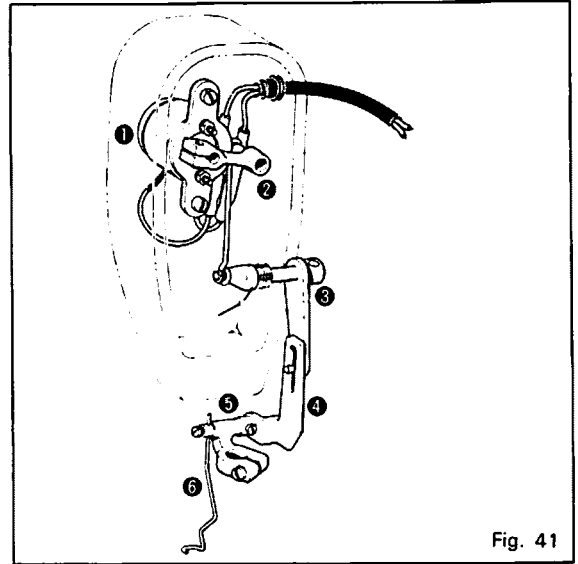

Fig. 41
- 1) Fix thread wiper solenoid ① with face plate.
At that time, fasten solenoid link ② to be functioned equally against horizontal shaft. (Fig. 41)
- c. Switch on, and as per Fig. 41, fasten slowly bolt ⑤ pressing by your finger, then sewing machine runs slowly.